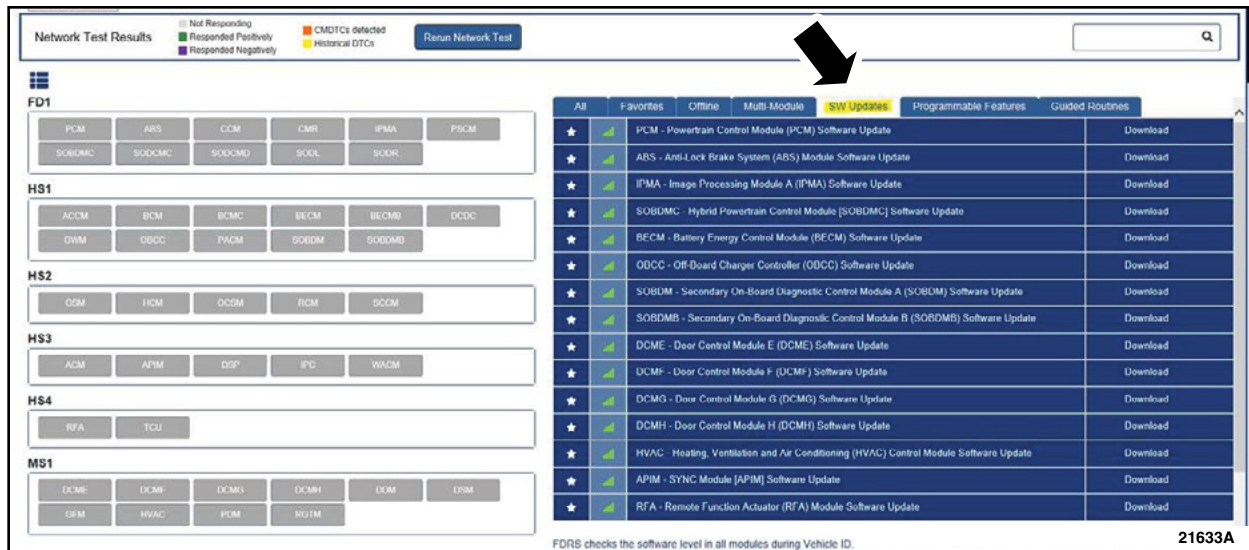

FIGURE 1
14. Select the SW Updates tab on the RH side of the screen. See Figure 1.